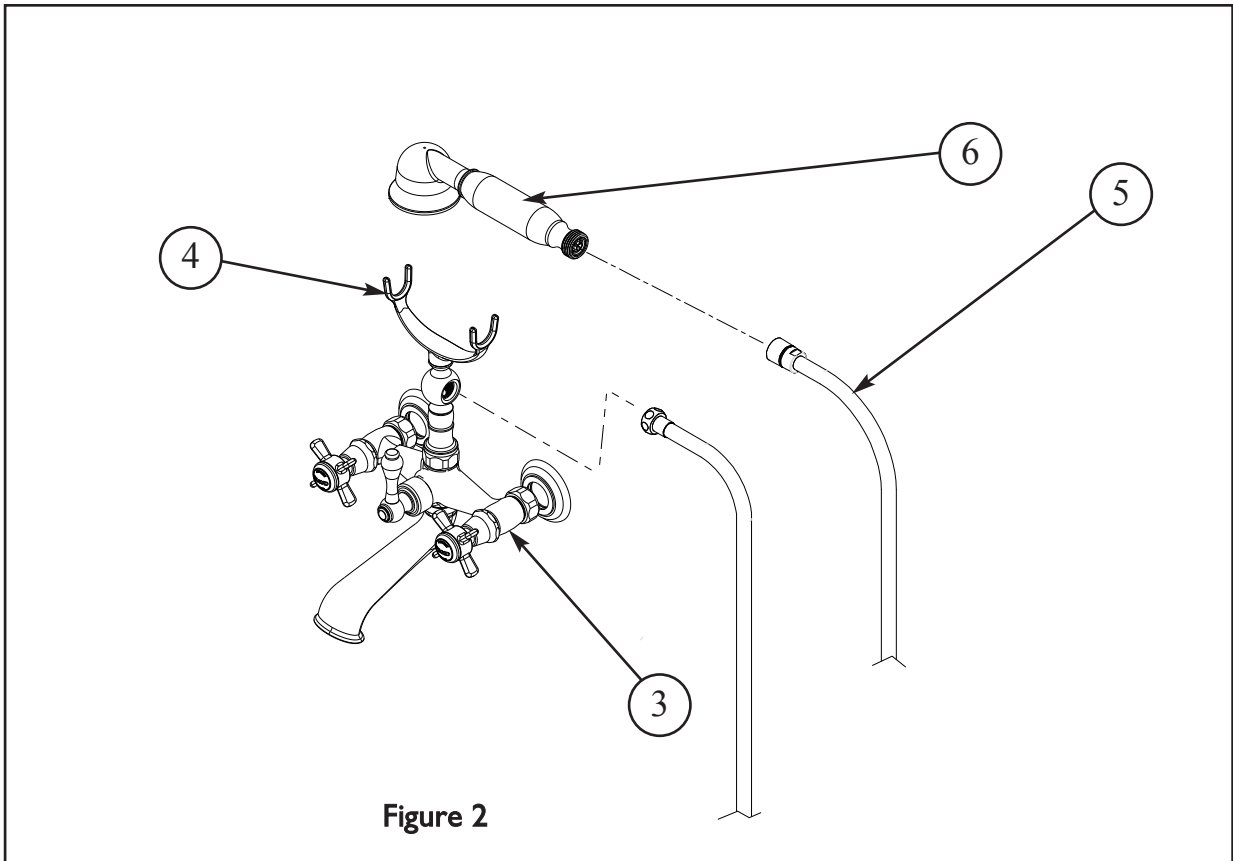

Figure 2
2. Thread hand shower RISER (4) to faucet BODY (3). Attach the flex HOSE (5) to RISER (4) and hand SHOWER (6). (Hand-tighten and secure each connection with a wrench 1/4 turn.) See Figure 2.